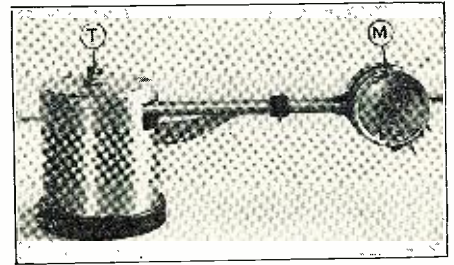

Fig. 1. An electrical reproducer for phonographs, employing a microphone (M) as the "pick-up," which replaces the sound box. T is the volume control.
First let us consider one type of electrical phonograph reproducer which requires no audio amplifier. The instrument is shown in the illustration of Fig. 1. It consists of a microphone, M, which is the electrical pick-up, and a case which contains a step-up transformer, a variable resistance, T, functioning as a volume control, and an automatic switch. All that is required for its operation is a radio storage "A" battery and a loud speaker, both of which connect to terminals at the rear of the case.
Fig. 2. The electrical reproducer shown in Fig. 1 connected up for operation. The only accessories required are a 6-volt storage battery and a loud-speaker. If the reproducer is used with an audio amplifier the storage battery should be replaced by a 1 1/2-volt dry cell.
The circuit diagram of the electrical reproducer shown in the illustration, Fig. 1.
The illustrations are almost self-explanatory, but a few words of explanation may not be amiss. The box shown in Fig. 1, can be made out of almost any sort of wood, and the dimensions as given are about right. The entire box is made out of lumber 1 inch thick, with the exception of the top board, which may be some veneer wood 1/4-inch thick, or even less. This receives the sound vibrations, transmitting them to the surrounding air, and for that reason the wood must be thin. Across the bottom there is a removable piece of wood 8 inches wide; the reason for this being explained further down.
FIG. 1 This shows the construction of the resonant box, which also becomes the base for the Christmas tree. Note particularly that the top of the box must be of thin veneer wood. The heavy wooden bottom strip is equipped with three blocks to hold the tree. Cut these pieces to fit the tree. Also note that the loud-speaker unit must be placed in correct relation to the resonant top part of the box. An adjusting screw is provided to regulate the unit for best results.
The pin (P) of the loud-speaker (LS), when the board (C) is put into place, rests upon the small wooden block (A). This wooden block is not absolutely essential, as the pin (P) of the loud-speaker may rest against the veneer board, if necessary. In the cross-section in Fig. 1 it is shown how the loud-speaker is arranged. There should